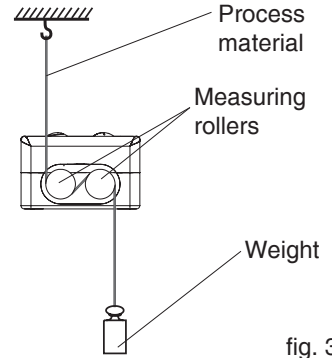

fig. 3.7
All tension meters are calibrated with standard materials - such as polyamide monofilament (PA) - according to the SCHMIDT factory procedure. The diameters are given in chapter 2. Any difference in process material size and rigidity from the standard material may cause a deviation of the accuracy. In 95% of all industrial applications, the SCHMIDT calibration has been proven to provide the best results and is used for comparative purposes. The tension meter is factory calibrated for a vertical material path (fig. 3.7).
- Hang a weight which corresponds to the tension to be measured from the process material, vertically, as shown in fig. 3.7.